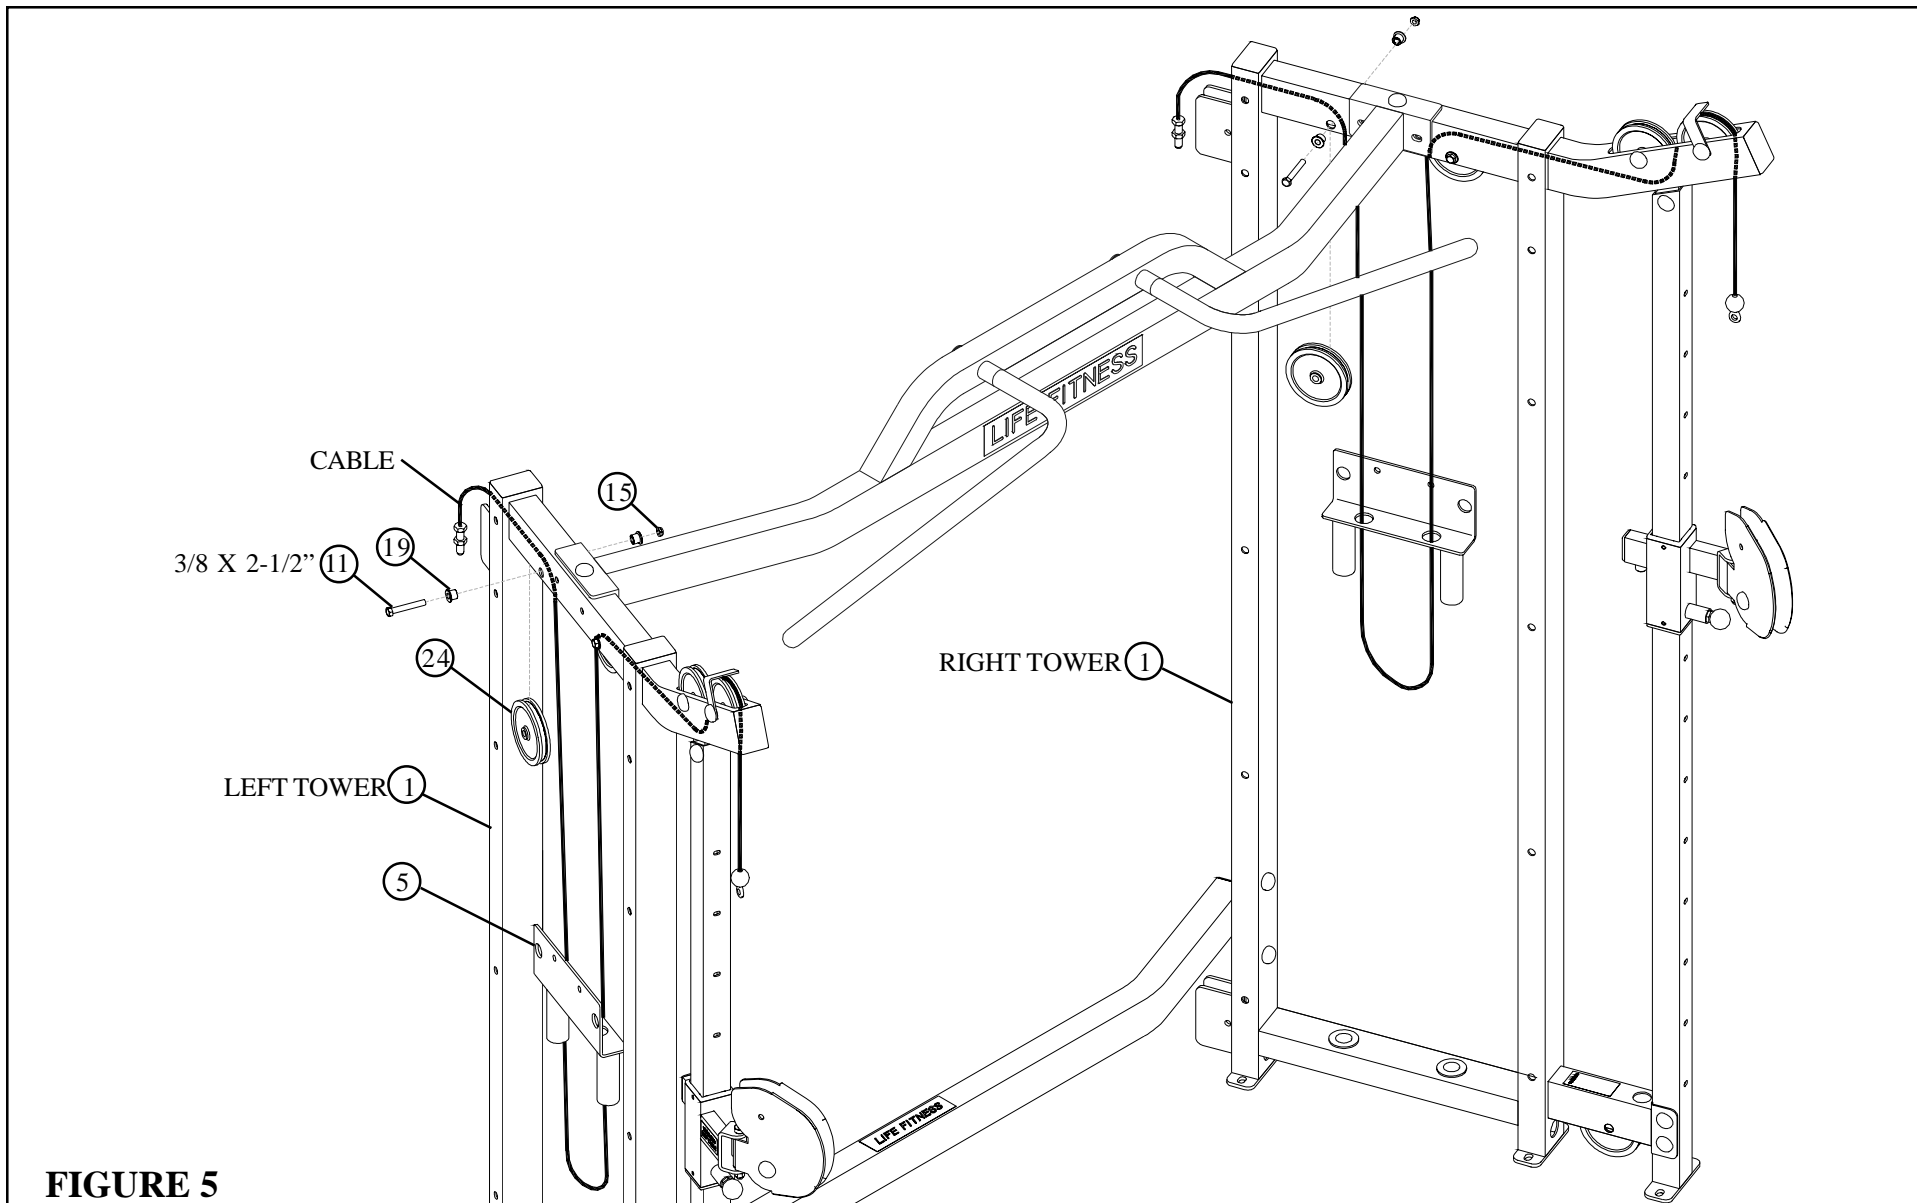

FIGURE 5
- Route the threaded end of CABLE through the GUIDE ROD SUPPORT (5) and through the LEFT TOWER (1) as shown in FIGURE 5.
- **SECURELY** assemble one 4-1/2" PULLEY (24) to the TOWER (1) using one 3/8 X 2-1/2" BOLT (11), two 3/8" FLANGE SPACERS (19), and one 3/8" LOW HEIGHT LOCK NUT (15) as shown in FIGURE 5.
- Repeat these steps to assemble the 4-1/2" PULLEY (24) and the GUIDE ROD SUPPORT (5) to the RIGHT TOWER (1). (**NOTE: The GUIDE ROD SUPPORT (5) is assembled to the RIGHT TOWER (1) in the opposing direction of the LEFT TOWER (1).** See FIGURE 5.)